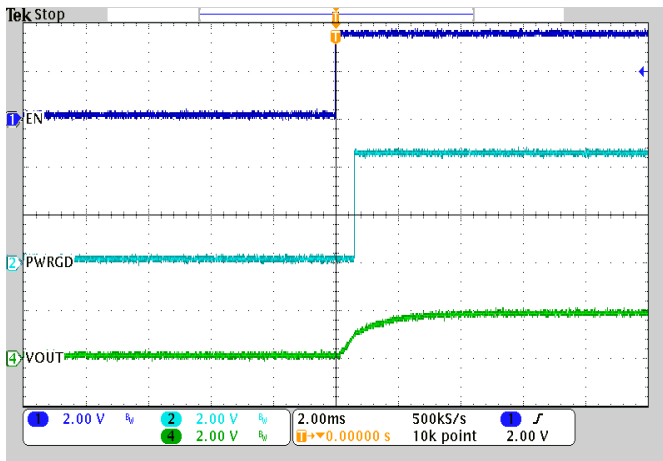
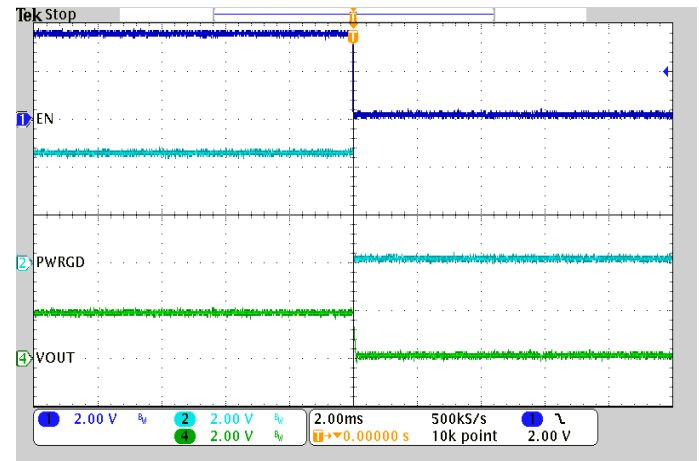

Fig. 18 Enable Turn-On for THPM4401A
Fig. 19 Enable Turn-Off for THPM4401A
Fig. 18 and Fig. 19 show the typical output voltage waveforms when THPM4401A is turned on and turned off by the EN pin. In these figures, the top trace is enable signal (EN), the middle trace is Power Good signal (PWRGD), and the bottom trace is the output voltage.